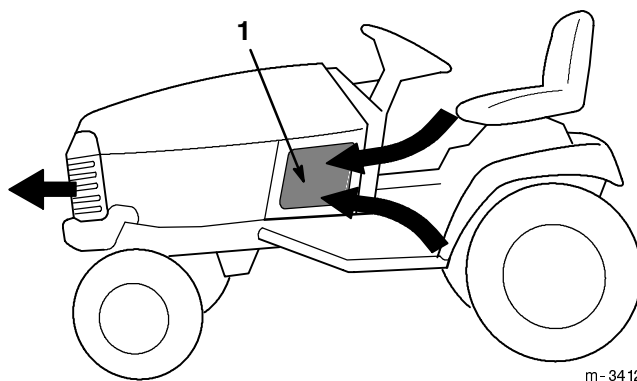

Figure 8
2. Check for debris on the (3) air intake screens (Fig. 8). Wipe away debris before each use and/or during use, if required.